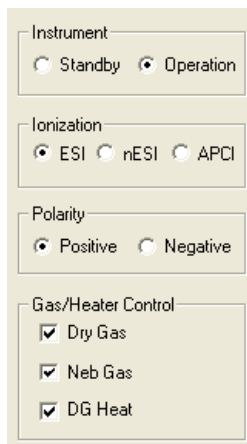

Figure 3-15 Instrument Control Group
1. In the BioTOF window (Figure 3-6 on page 3-6), click the **Operation** option button in the Instrument group (Figure 3-15).